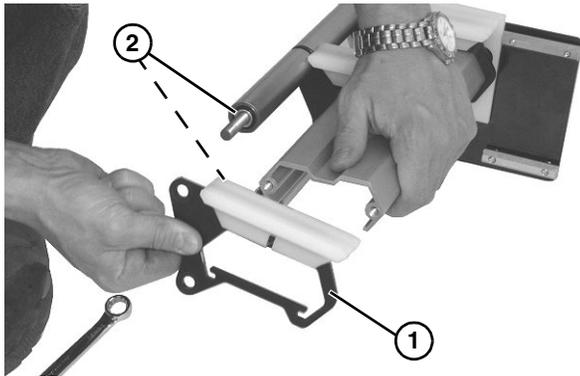

Figure 52
- Slide the support plate (**Figure 52, item 1**) off of both axle shafts.
- Remove washer (**Figure 52, item 2**) off of lower and upper axle shafts.